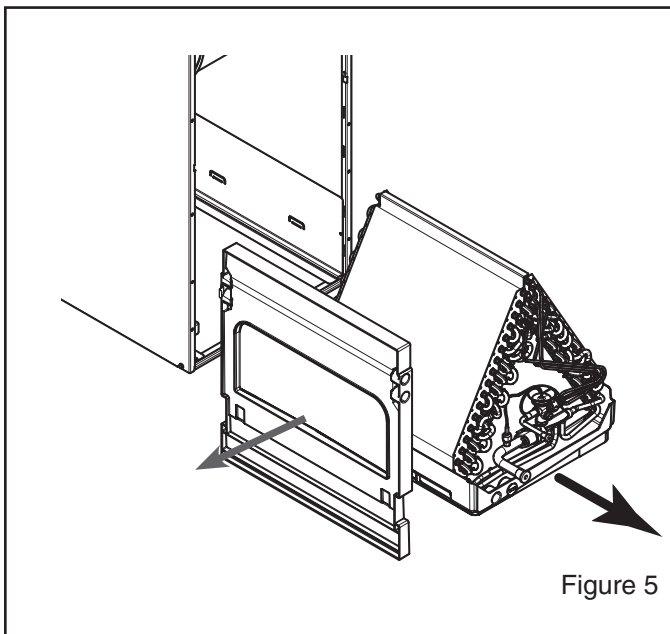

Figure 5
4. Remove coil assembly from the air handler by sliding assembly outward. See Figure 5.
5. Remove and retain the horizontal drain pan to reinstall later. See Figure 5.
3. Remove coil assembly from the air handler by sliding assembly outward. See Figure 5.